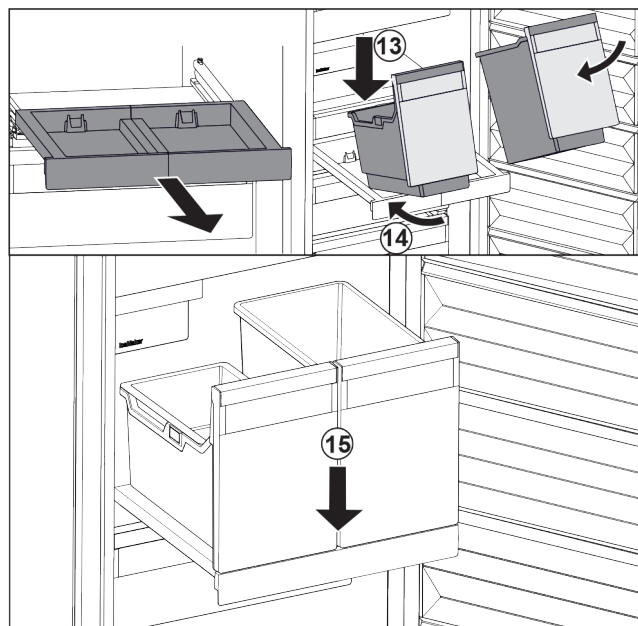

Fig. 99
- Place the container at an angle on the pull-out board. Fig. 99 (13)
- Slide in the container at an angle to the back. Fig. 99 (14)
- Place container at the front. Fig. 99 (15)